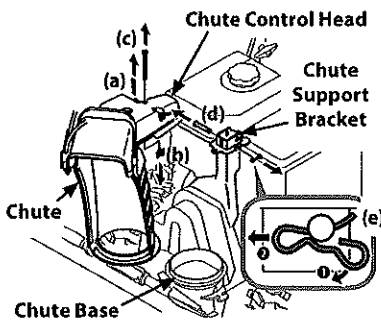

Figure 2-13
1. Remove hairpin clip (a), wing nut (b) and hex screw (c) from chute control head and clevis pin (d) and bow-tie cotter pin (e) from chute support bracket. See Figure 2-13.